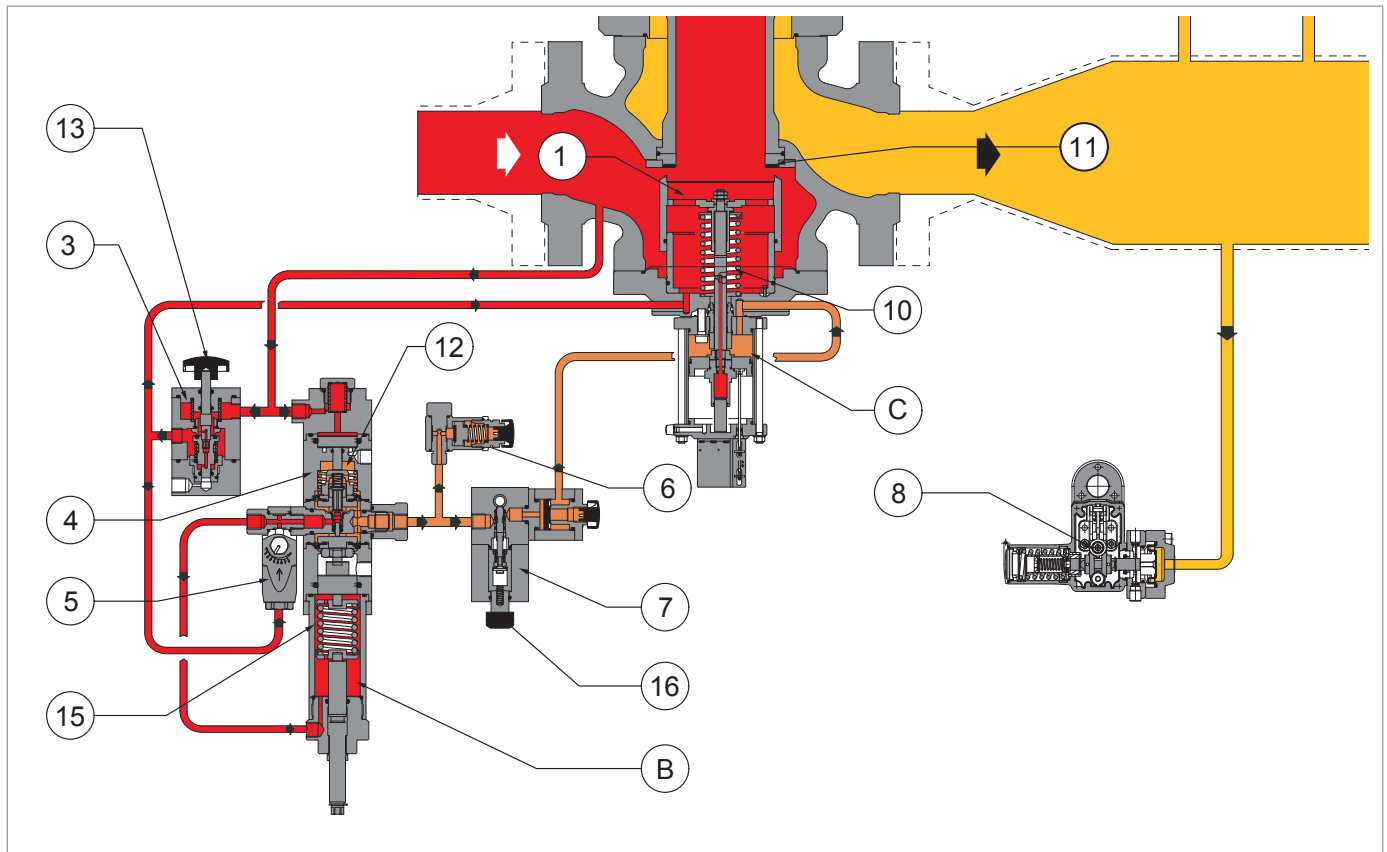

Fig. 4.12. REFLUX 819 with HB/97 incorporated slam-shut valve
The HB/97 incorporated slam-shut valve consists of (see Fig. 4.12):
The LINE OFF 2.0 device (3) consists of (see Fig. 4.12):